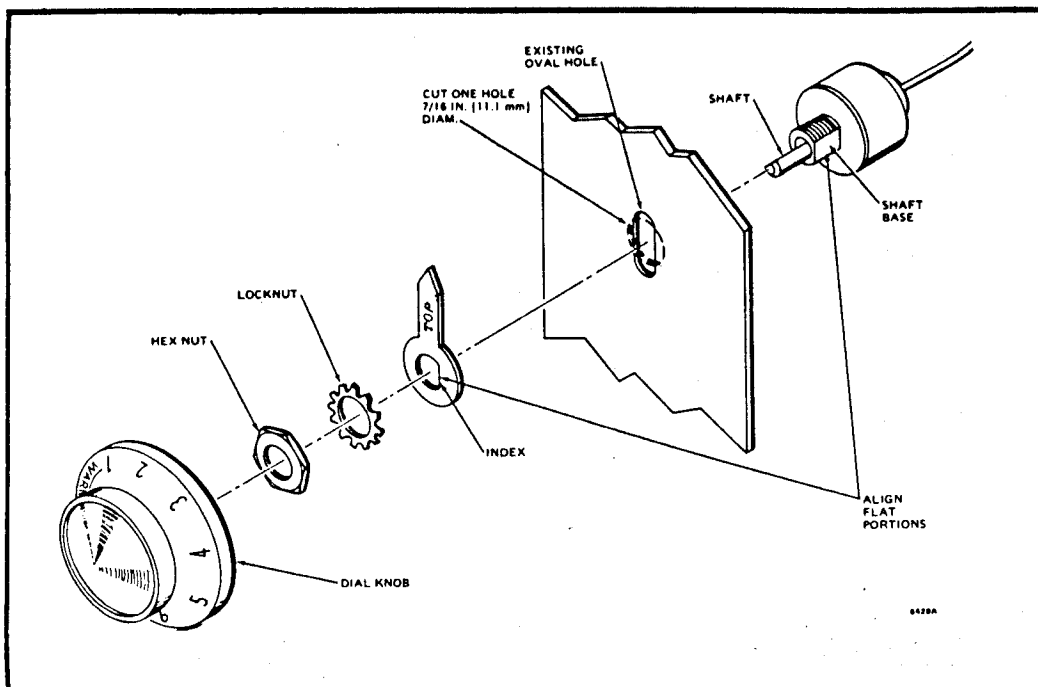

Fig. 22—Replacing a concealed remote dial or a dial with hex mounting nut.
3. Insert the dial shaft so that the flat portion of the index and shaft base align (Fig. 22).
3. Place the index piece over the hole. Insert the dial shaft so that the flat portion of the index and shaft base align (Fig. 22).